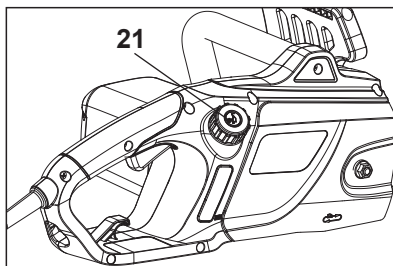

Fig. 3a
1. Place the product on a stable, level surface with the oil tank cap (21) facing upward. We recommend laying a non-flammable sheet under the product.
2. Unscrew and remove the oil tank cap (21) (Fig. 3a).